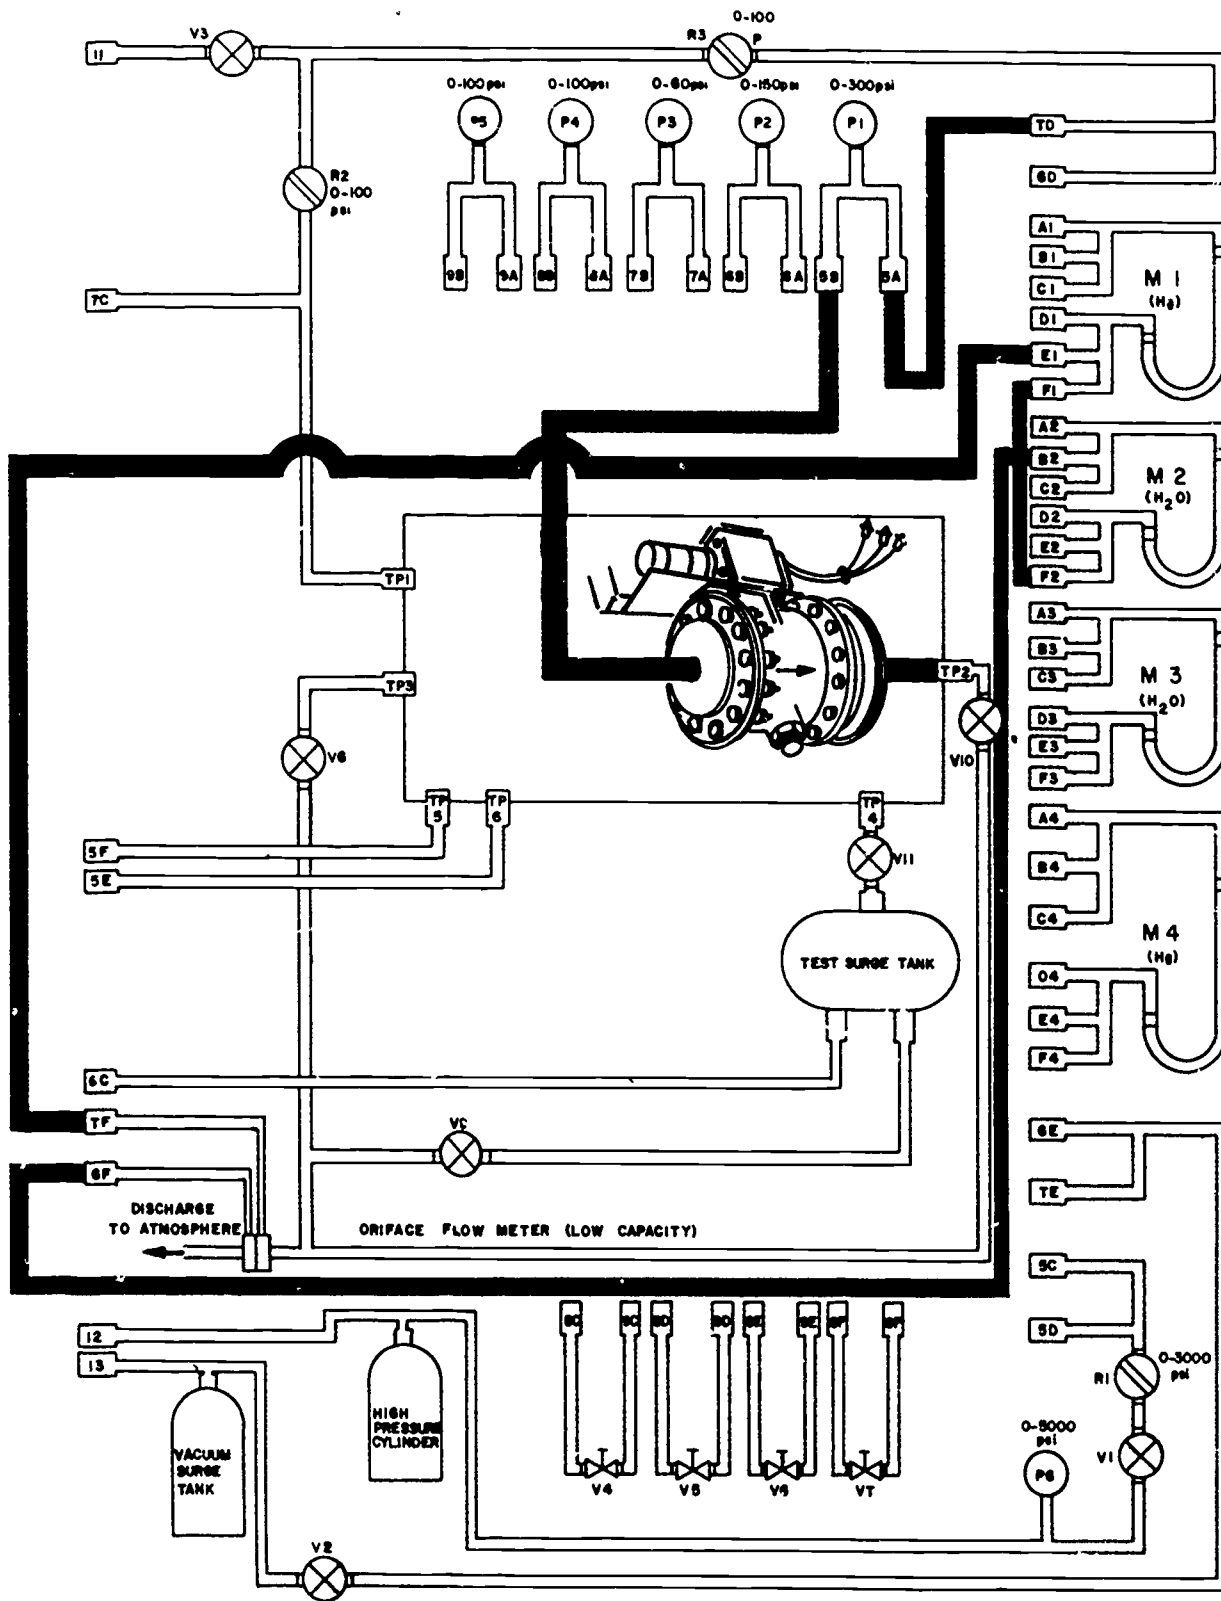
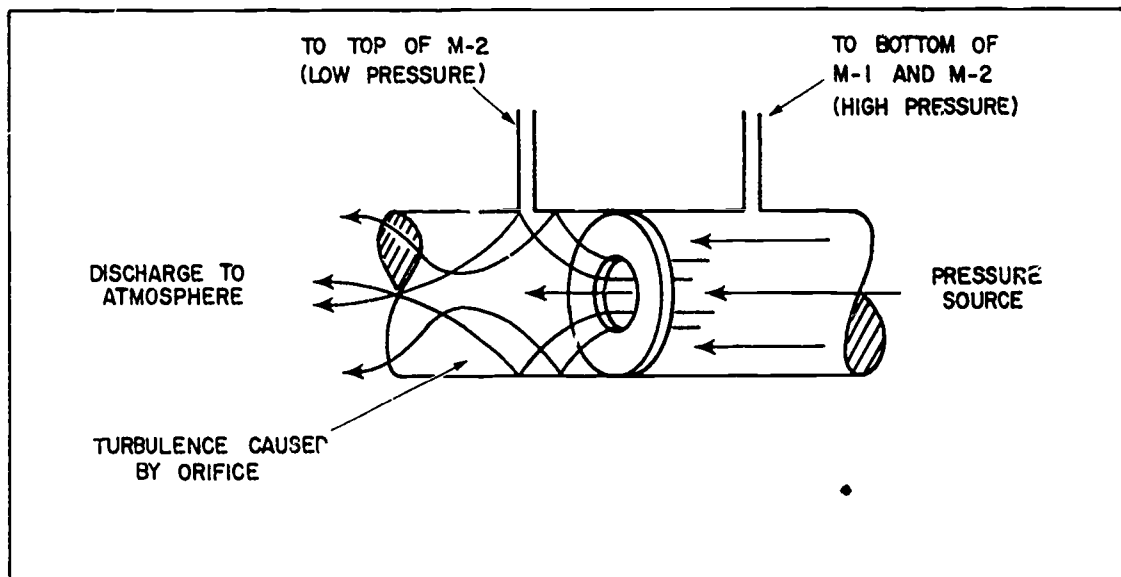

Figure 2. Test Facility Pneumatic Schematic.
Figure 3. Typical Orifice in a Duct.
a. Figure 2 gives the proper way to hook the valve to the trainer. The heavy, black lines show how to hook each hose in order to make this check.
b. Make the necessary connections using hoses provided in the bottom of the trainer. Compare your hookup and figure 2 in the workbook with the test set up (figure 5) in the T0 to see how much alike they are. Then hook one end of a hose to connection 7D on the trainer and connect the other end of the same hose to connection 5A. Continue until each hose is connected. DO NOT use a wrench to tighten the "B" nuts (hose connections) as finger tightness is sufficient for this test.
(1) Valves V8 and V9 are closed. (Full clockwise)
(2) Valve V10 is open. (Full counterclockwise)
(3) Turn regulators R2 and R3 counterclockwise until they turn freely. DO NOT turn the regulators too far or they will fall out and cause loss of air pressure.
e. Trace the air flow through the trainer and valve (figure 2). Air in the trainer flows through V-3 and R-3 to connection 7D from 7D through pressure gage P1 and then to the valve. Even though the valve is closed, some air leaks through and goes through V-10 and on to the orifice. Air flow from the upstream side of the orifice goes through connections 7F to E1. From E1 air flows to the bottom of M-1 and at the same time air flows through fitting F1 to F2 and to the bottom of M-2. The mercury manometer (M-1) now reads the absolute pressure that goes through the valve end to the orifice. This high pressure will push the water up in manometer M-2. After the air goes through the orifice, the pressure will drop due to turbulence caused by the restrictions (see figure 3). This low pressure air flows through fitting 6F to B2 and in the top of manometer M-2 and tries to push the water down. The two air flows meet and stabilize in M-2. This is where the differential pressure reading is made.